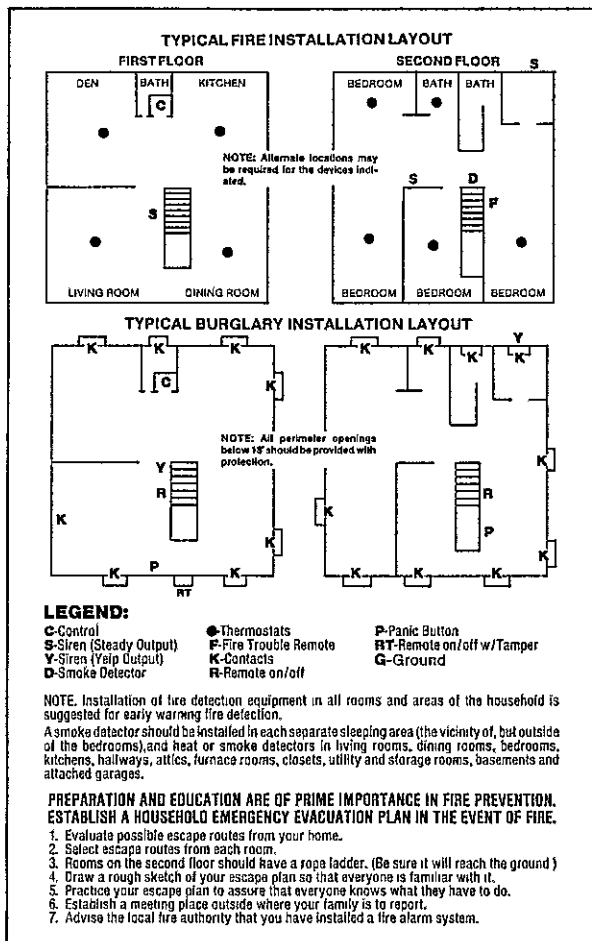

FIGURE 2 TYPICAL INSTALLATION LAYOUTS
1. Proper planning is essential in the installation of any fire or security system. Figure 2 is a layout of a typical burglar and fire installation. We recommend that you use this layout as a guide for developing a diagram of your installation.